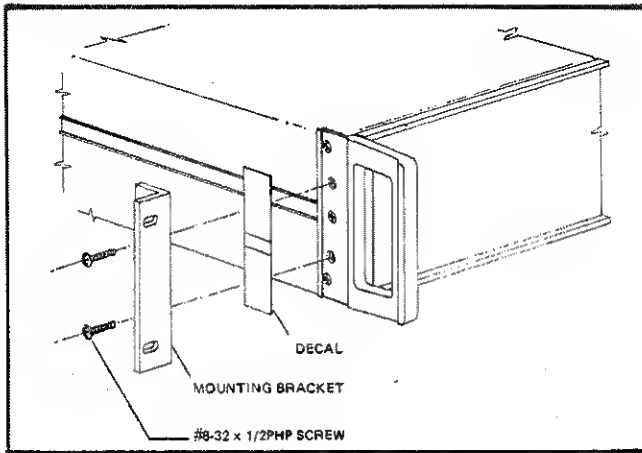

Figure 6-2. RACK MOUNTING BRACKET INSTALLATION
- Peel the decal shown in Figure 6-2 from each front side panel.